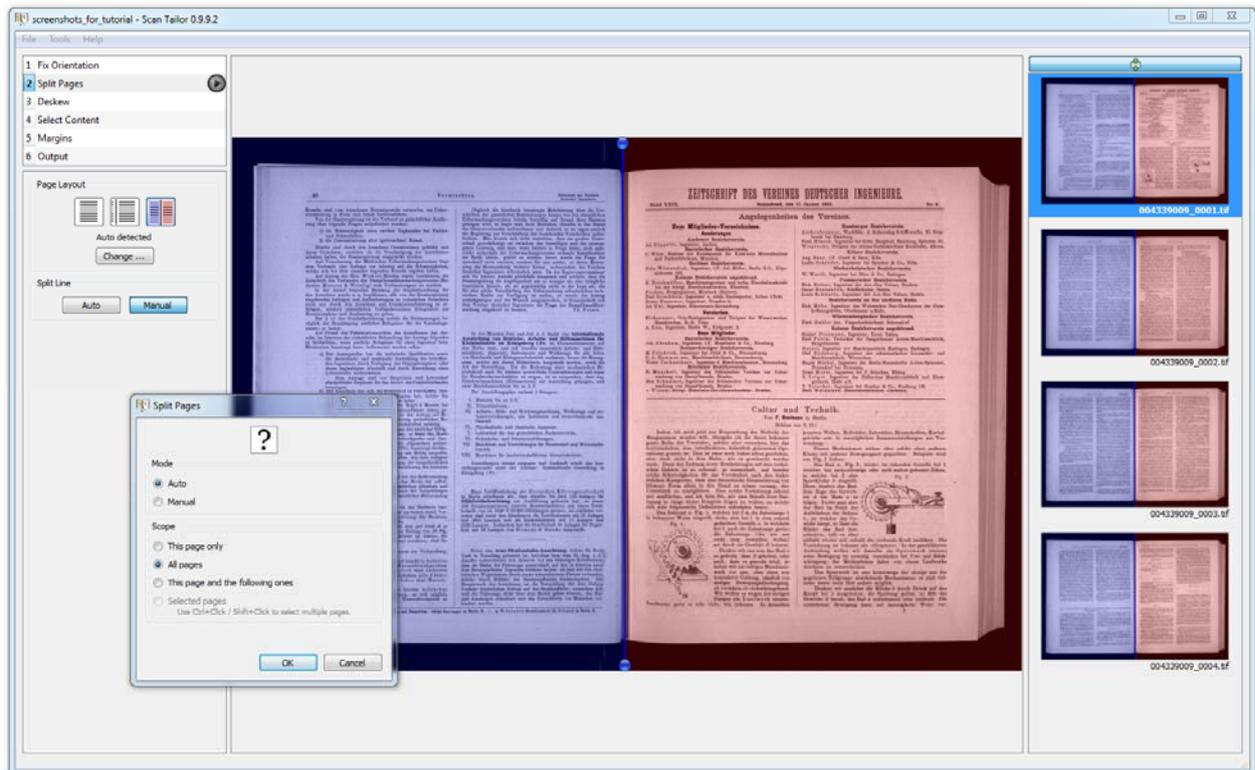

Figure 21 - *ScanTailor* - splitting a double page scanner image into two pages
*ScanTailor* can find the splitting/cutting position automatically. You can change it manually if necessary. For this the cutting line(s) can be moved by pushing the left mouse button and dragging to the desired location, towards right or left (see figure 21).